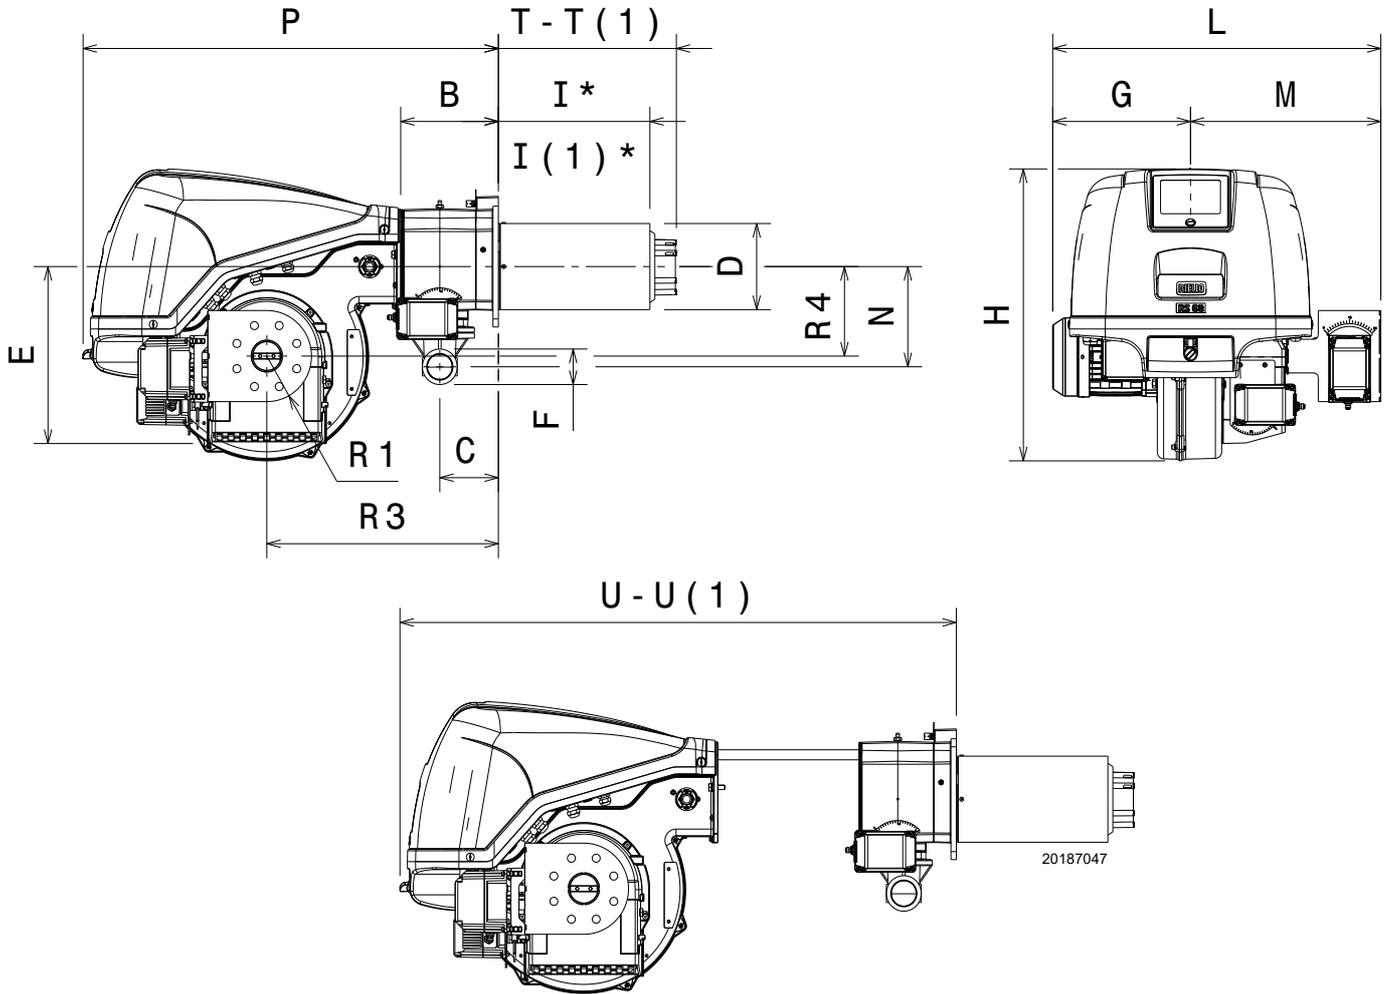

Fig. 1
The dimensions of the burner are shown in Fig. 1.
* The maximum depth of the boiler door is referred to dimension "I" (Fig. 1 on page 8).